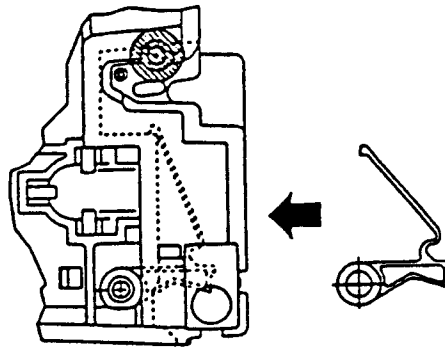

Figure A-6. Reinstalling the Display Assembly
5. In case you removed the latch (no. 11, Section A.7.1.3) and its shaft (no. 12, Section A.7.1.3), insert the latch and the shaft again. Make sure that the tab of the latch is caught on the bottom side. Refer to Figure A-6.